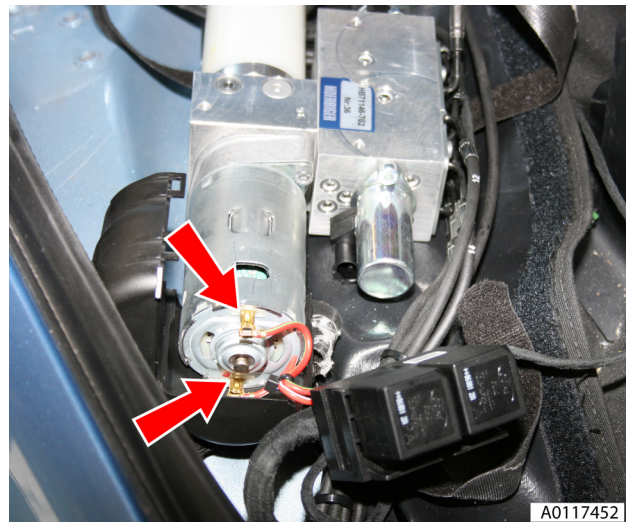

Fig. 25
46. Disconnect pump lucar connectors (x2) (see Fig. 25).